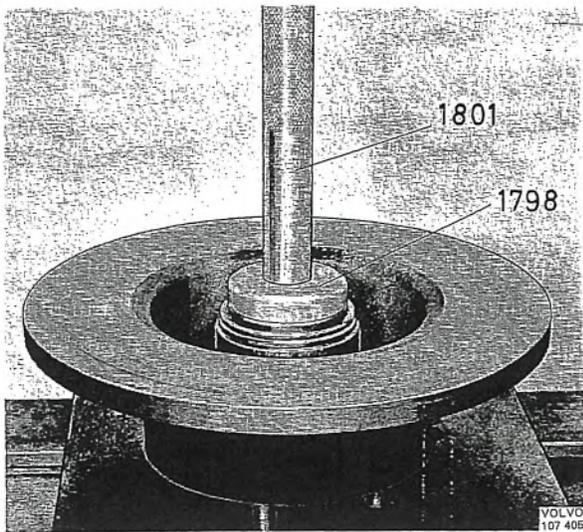

Fig. 6-23. Installing sealing ring
3. Place the inner bearing in position in the hub. Press the sealing ring in with drift 1798 and standard handle 1801, see Fig. 6-23.